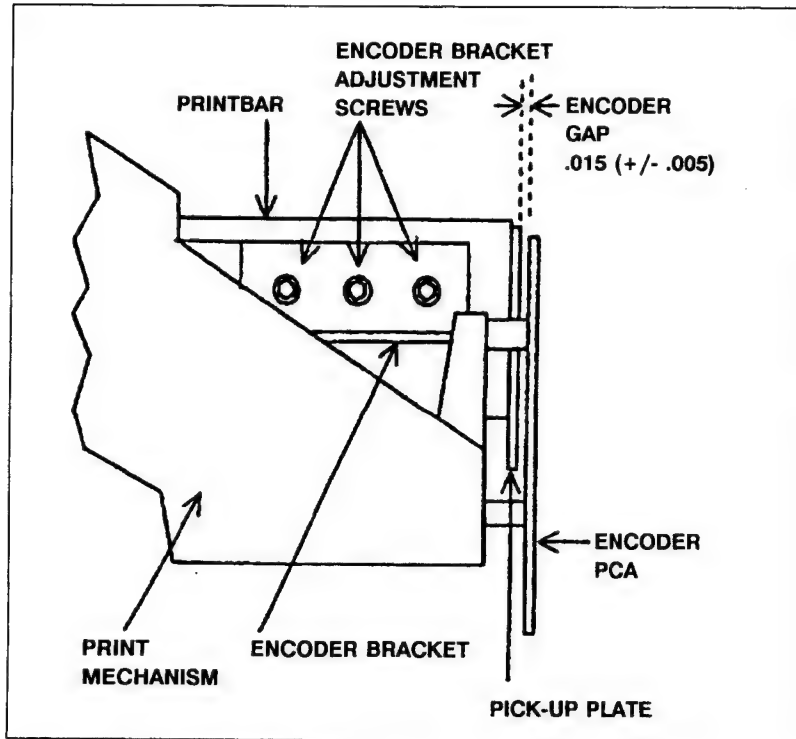

Figure 5-3. Encoder Adjustment
The encoder gap is the space between the Pick-Up PCA which moves with the print bar assembly, and the Encoder PCA which is mounted on the print mechanism casting. The gap should be  $.015 \pm .005$  inches. The gap should be adjusted each time the print bar assembly, Encoder PCA or the Pick-Up PCA is replaced. The printer weldment must be removed prior to adjusting the encoder gap. This allows access to the 3 pick-up bracket adjustment screws (see Figure 5-3).
- b. Loosen the three pozidrive screws or 3mm socketed cap screws which support encoder pick-up plate bracket (see Figure 5-3).